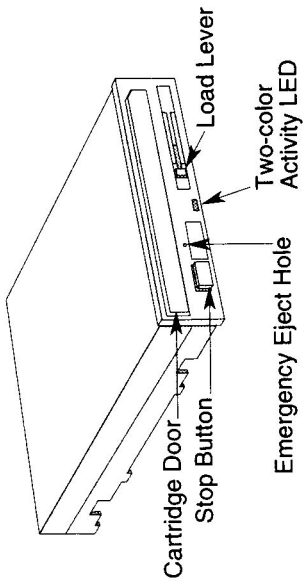
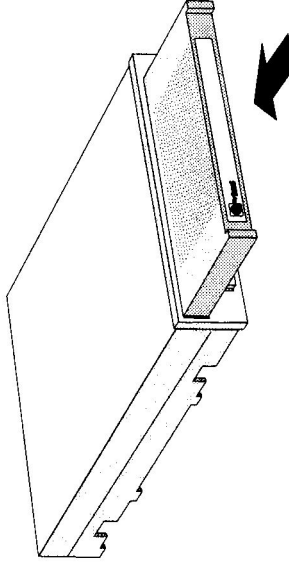

Figure 10. Parts of the SQ3105S/SQ3270S Drive
Figure 12. Inserting the Cartridge into the Drive
Before you use the SQ3105S/SQ3270S cartridge disk drive, study the illustration in Figure 10 to familiarize yourself with the drive's controls and indicators.
2. Slide the cartridge into the drive through the drive's cartridge door, as shown in Figure 12. When the cartridge comes to a stop, the load lever on the front panel of the drive pops out. Refer to Figure 10 on page 30 for the location of the load lever.